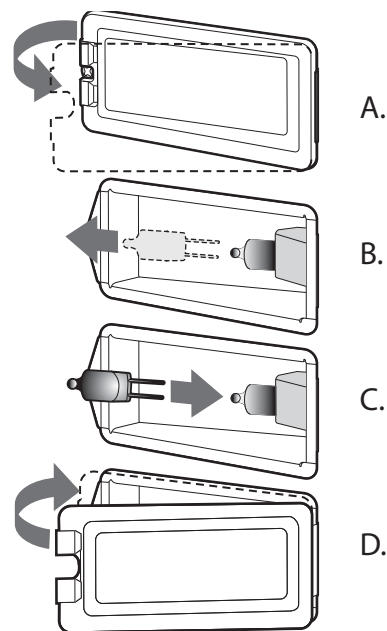

Figure 31: Bulb Replacement
3. Slide the tip of a flat blade screw driver between the fixing glass lens cover and the lamp housing (*Figure 31, A*).
6. Remove the bulb by grasping and sliding the bulb straight back until the two prongs have cleared the ceramic holder (*Figure 31, B*).
8. Press down to seat the bulb (*Figure 31, C*).
9. Slide the protective lens into the holder clip and push the other end until the lens snaps back into the housing (*Figure 31, D*).